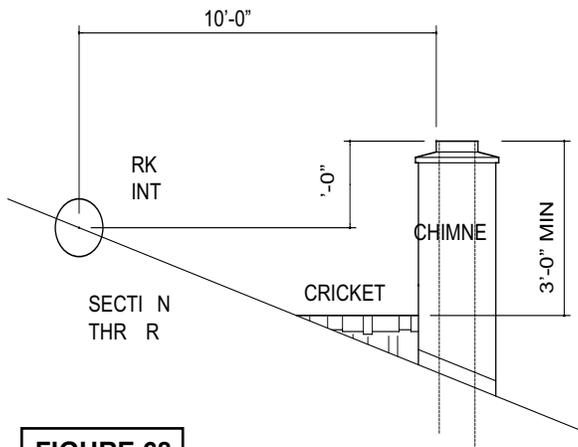

FIGURE 68
- (2) If the horizontal distance from the opening of the chimney to the roof ridge is more than 10’ then a chimney height “work point” is established on the roof surface 10’ horizontally from the opening of the chimney. The top of the chimney must be at least 2’ above this work point. (Figure 68)